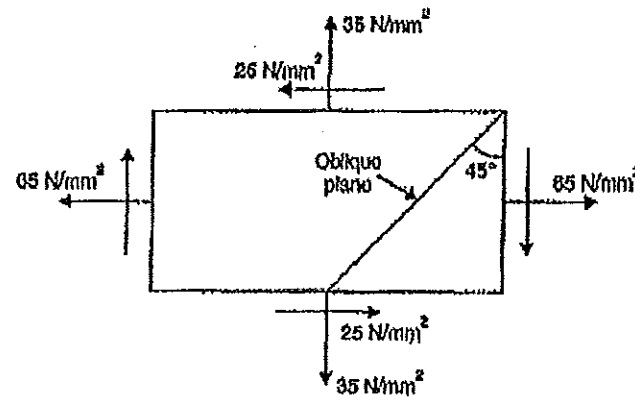

Fig. 16(a)
16. a) A point in a strained material is subjected to stresses as shown in Fig. 16(a). Using Mohr's circle method, determine the normal and tangential stresses across the oblique plane. Also verify the normal and tangential stresses analytically.